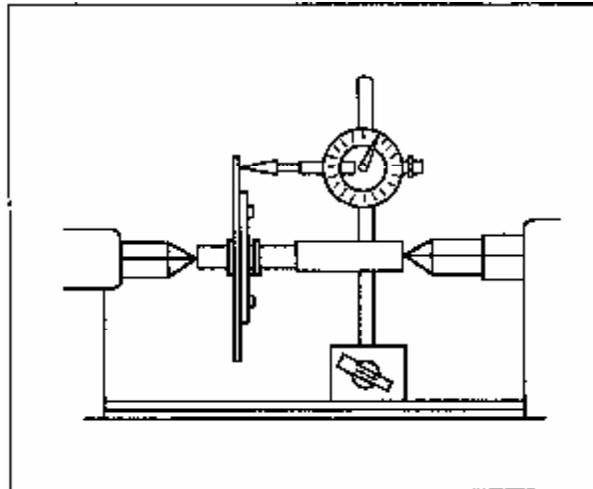

Figure 3-63 Check Run-out Tolerance of Clutch Driven Plate
**3.10.2** Check for run-out tolerance on the edge of driven plate (see Figure 3-63). The maximum run-out tolerance is 0.8mm. If it exceeds this value, replace the driven plate.